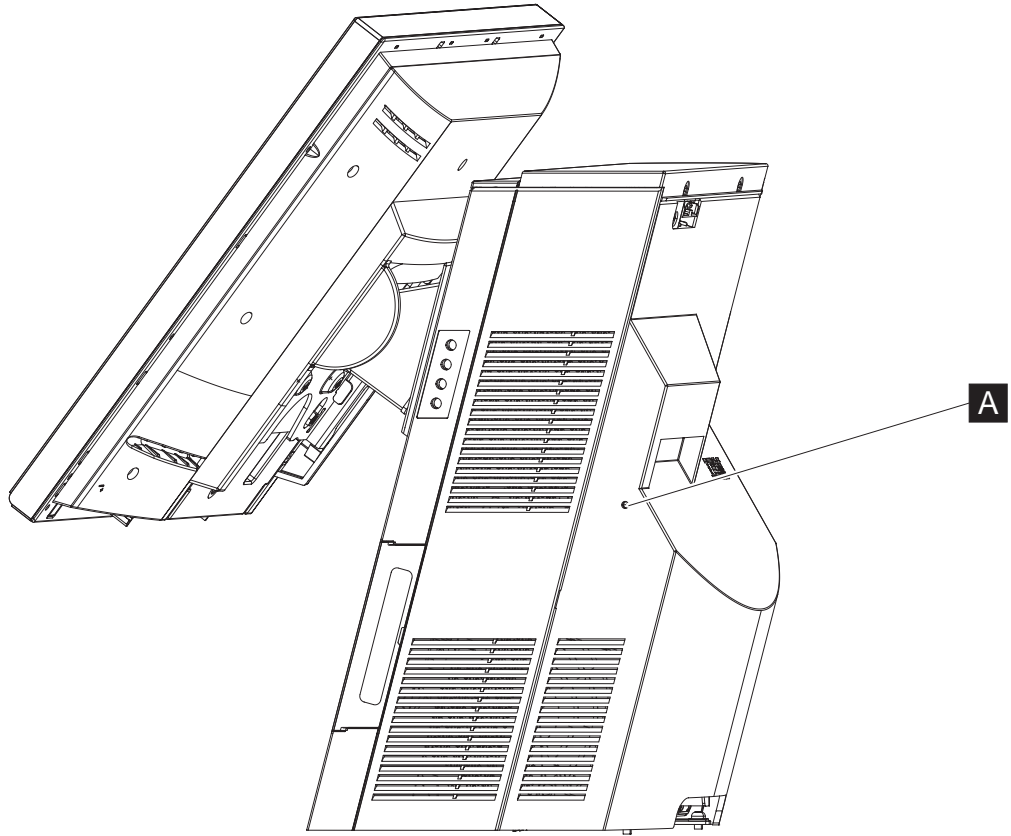

Figure 61. Sign attachment for system unit
- There are two places on the system unit. One is located on each side of the unit. See **A** Figure 61.